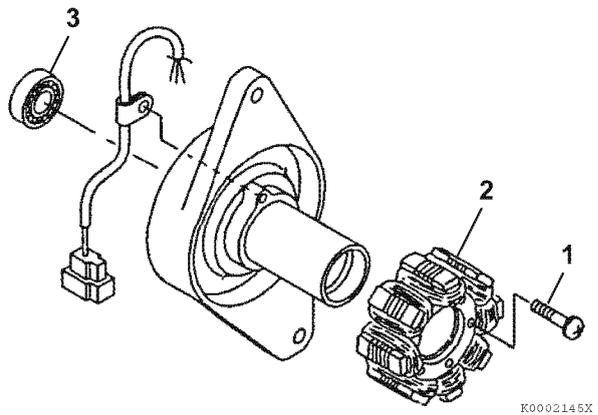

Figure 12-29
1. Reinstall the rear bearing (3, **Figure 12-29**).
2. Reinstall the stator (2, **Figure 12-29**) and screws.